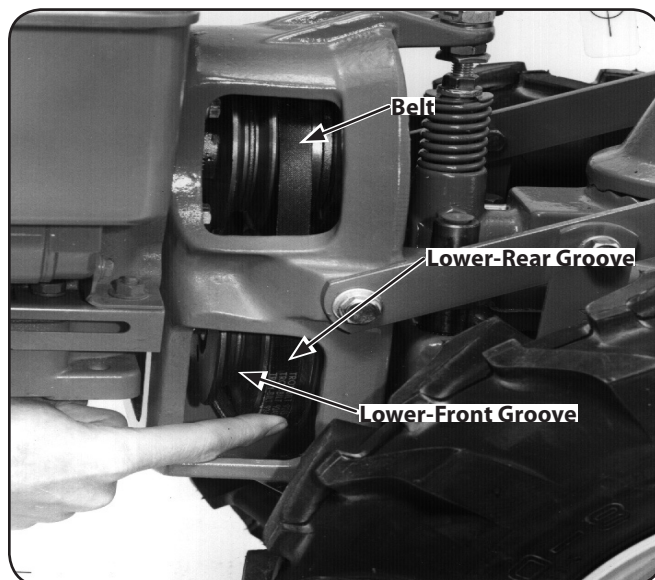

Figure 5-10
6. Go to the right side of the tiller and finish seating the belt. See Figure 5-10.